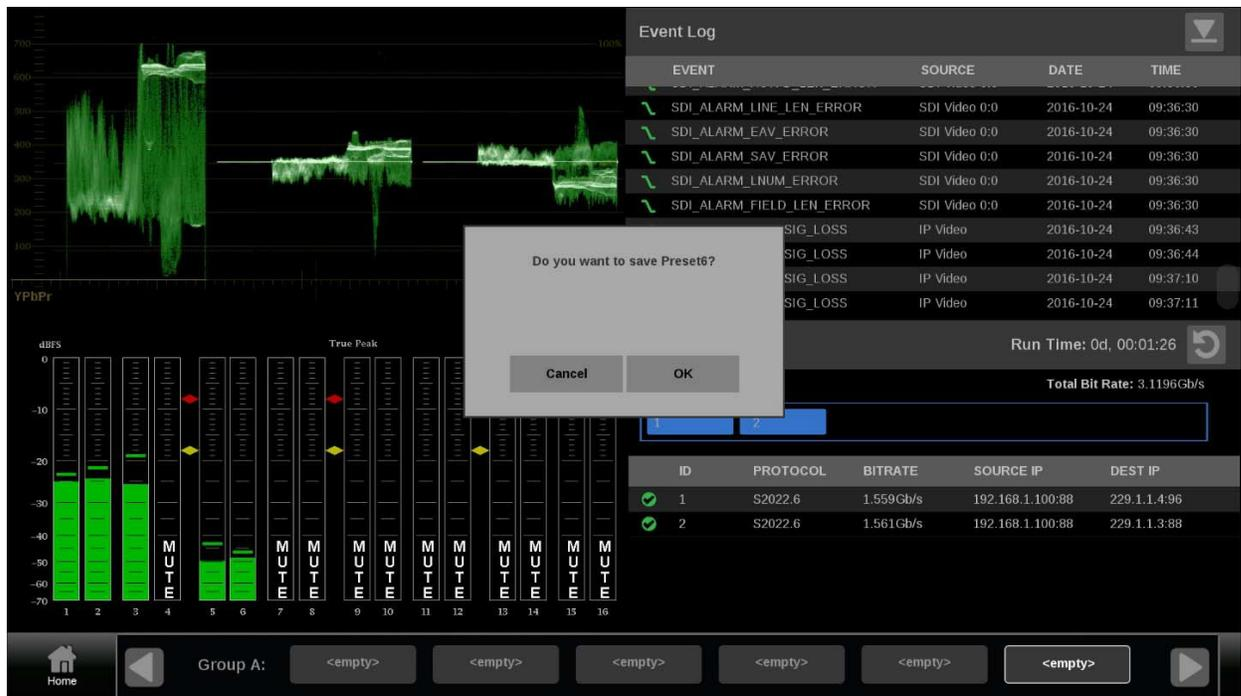

Figure 64: Assign a preset
- c. When you have found the preset group to change, select and hold the preset button to assign the current instrument configuration to. The selected preset button is highlighted and a confirmation box appears. In the example, the Group B preset B6 is being saved. (See Figure 64.)